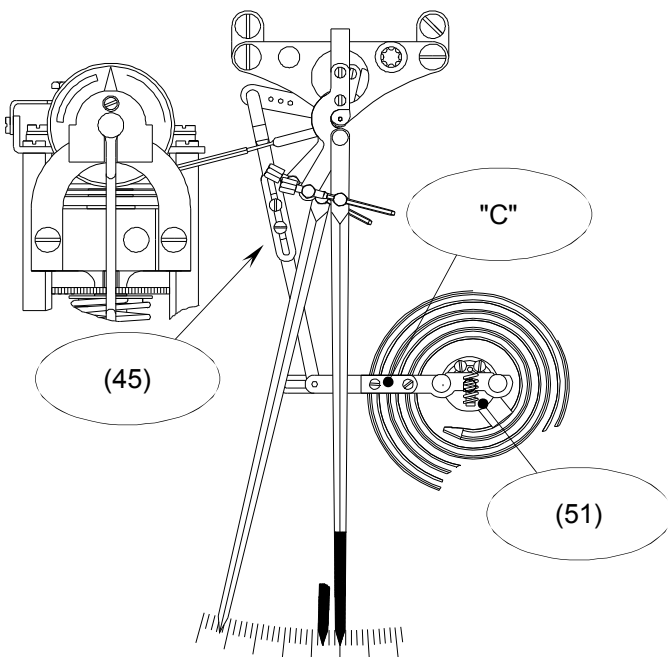
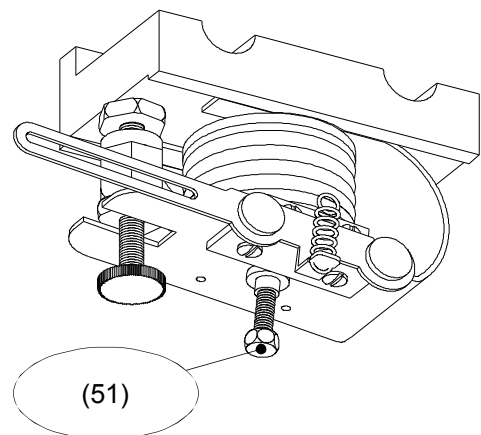

Fig. 8.1.1
Fig. 8.1.2
Correct any minimal deviations of the black indicator (measured variable) from the real value by turning the hexagonal part of the tie rod (45) (see Fig 8.1.1).
See Fig. 8.1.1 for temperature and pressure elements. See Fig. 8.1.2 for 3÷15 psi receiving elements.